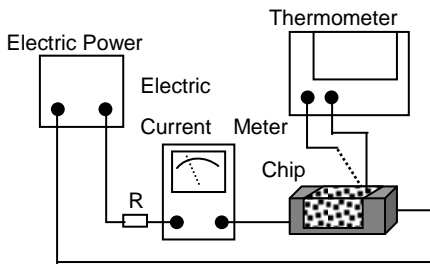

Fig. 5.3.3-1
- d. Definition of Rated Current (I_r): I_r is direct electric current as chip surface temperature rose just 20°C against chip initial surface temperature(T_a) (see **Fig. 5.3.3-2**).